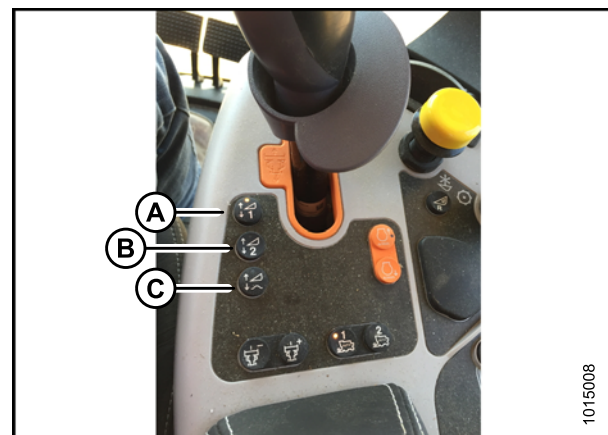

Figure 6.202: New Holland Combine Controls
5. Select one of the auto height set point buttons shown in Figure 6.202: *New Holland Combine Controls, page 236*.